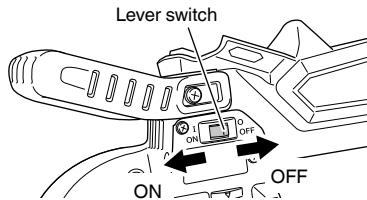

Fig. 6
- (1) Check that the band saw stand is correctly secured, and that the lever switch is in the OFF position. (**Fig. 6**)